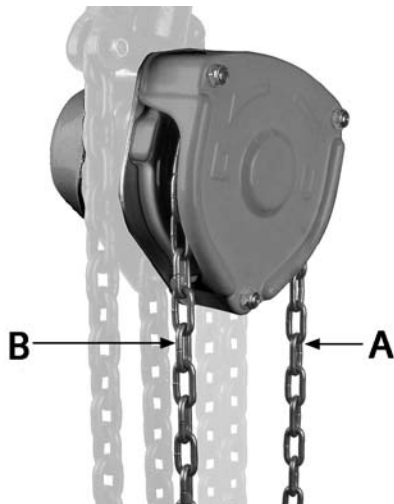

Figure 5
To raise load, pull right side of hand chain (A, Figure 5) so that wheel turns clockwise.
To lower load, pull left side of hand chain (B, Figure 5) so that wheel turns counterclockwise.
1. Remove *split pin* (A) and *pin stopper* (B) on the *chain anchor* (C), allowing the end of the load chain to fall free.
2. Pull the *hand chain* (Figure 5) until load chain is completely removed from gear assembly.